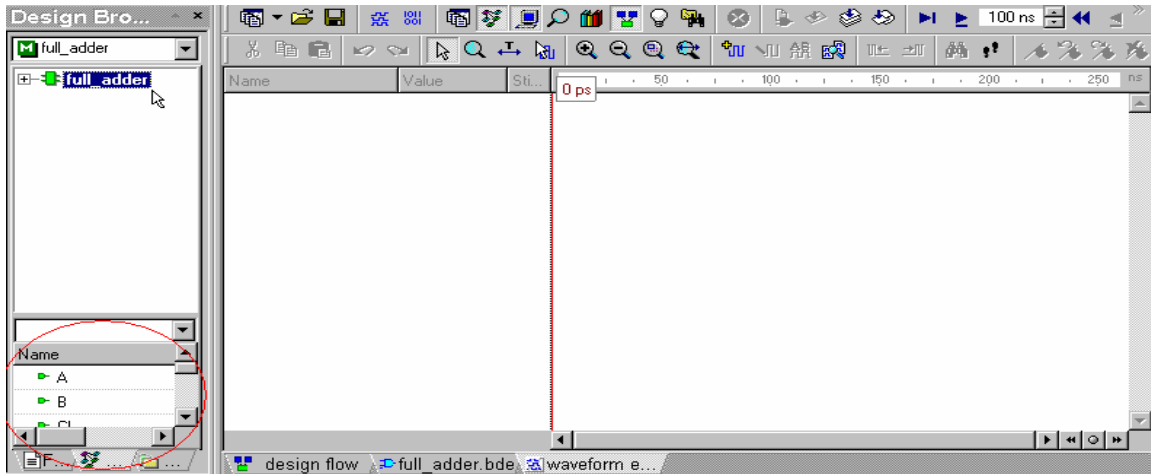

Figure 32
7. Click the file name in the top window in the Design Browser under the Structures tab. Notice in Figure 32 how the signals and wires (Nets) appear in the bottom window of the Design Browser.